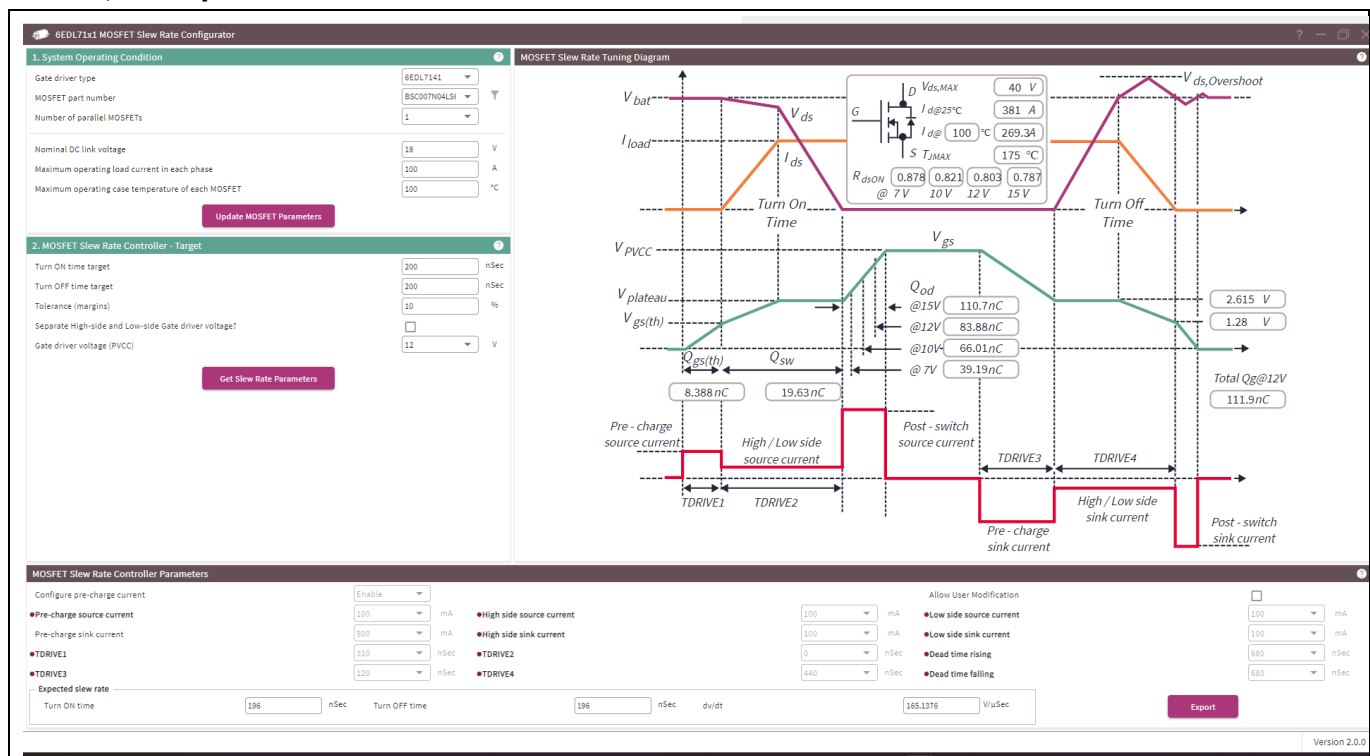

Figure 8 6EDL71x1 MOSFET Slew Rate Configurator
2. Enter the basic information of the system operating conditions (see Figure 8). After adding the necessary data, click **Update MOSFET Parameters**.